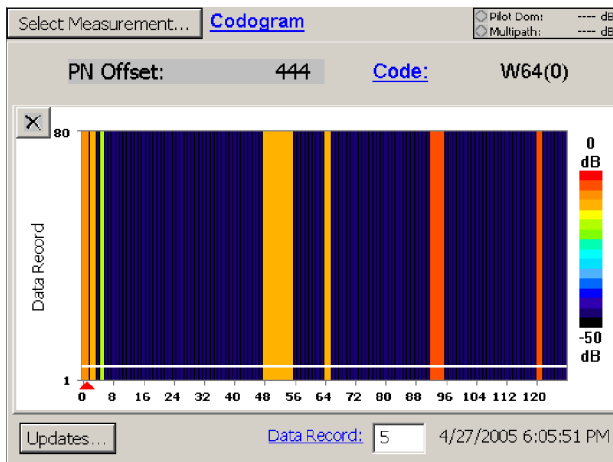

Figure 3-55: cdma2000 Codogram display
4. Tap **Codogram**. See Figure 3-55.